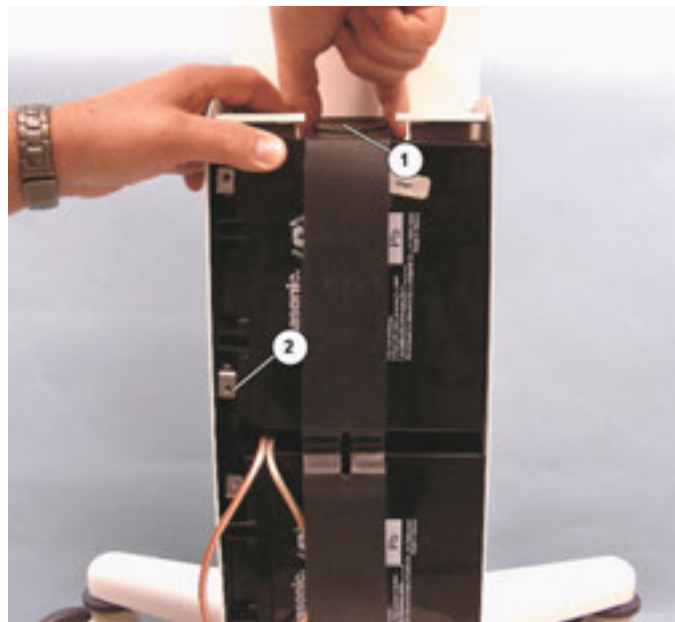

Fig. 106 External batteries: Upper support
- 8 Take the strap out of the upper support (Fig. 106/1).
10 Remove the mounting brackets (Fig. 106/2) from the used batteries and fit them to the new batteries.